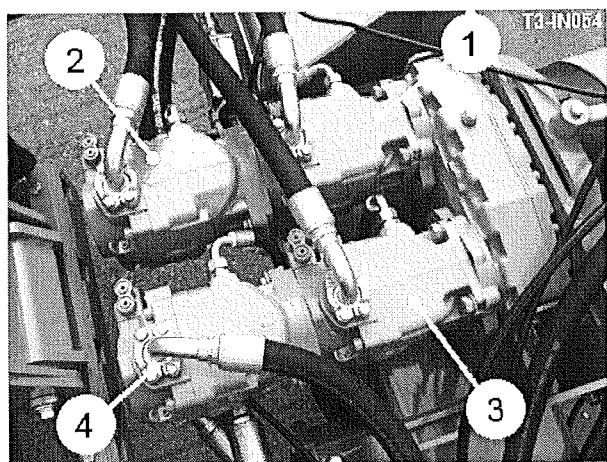

Fig 27
The pump (item 1, fig 27) powers the digger web, sieving web and haulm roller. From the pump the feed is into the valve (see fig 28). On/off and speed control is from the service terminal. The digger web speed should be adjusted to give a consistent crop take-away from the shares, and the sieving web speed should be adjusted to give a consistent crop take-away from the digger web.
The pump (item 2, fig 27) powers the 2nd Omega separator Unit and powered diablo roller option. From the pump the feed is into the valve (see fig 29). On/off control and scroll speed is proportionally controlled from the service terminal. The clod rollers are in a series circuit fed from a double-acting valve allowing the clod roller set to be reversed. This also enables the operator to reverse the rollers to eject a blockage. A manual reversing valve is fitted to each clod roller motor allowing individual rotations to be set.
The pump (item 3, fig 27) powers the 1st Omega separator Unit and rotary agitators. From the pump the feed is into the valve (see fig 30). On/off control and scroll speed is proportionally controlled from the service terminal. The clod rollers are in a series circuit fed from a double-acting valve allowing the clod roller set to be reversed. This also enables the operator to reverse the rollers to eject a blockage. A manual reversing valve is fitted to each clod roller motor allowing individual rotations to be set.
The pump (item 4, fig 27) supplies the powered axle. From the pump the feed is into the valve (see fig 31). The axle drive is switched for forward and reverse from the slave box or the service terminal. When the high pressure button  is pressed, the system operating pressure is increased to the setting of the main compensator within the pump.